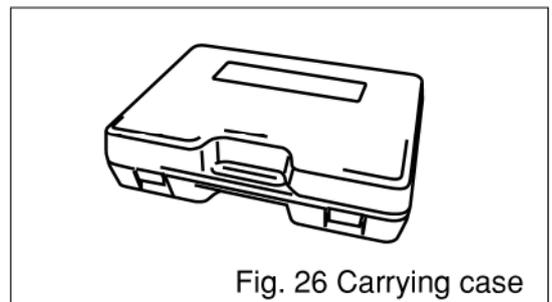

Fig. 26 Carrying case
## (5) Carrying case (Fig. 26)